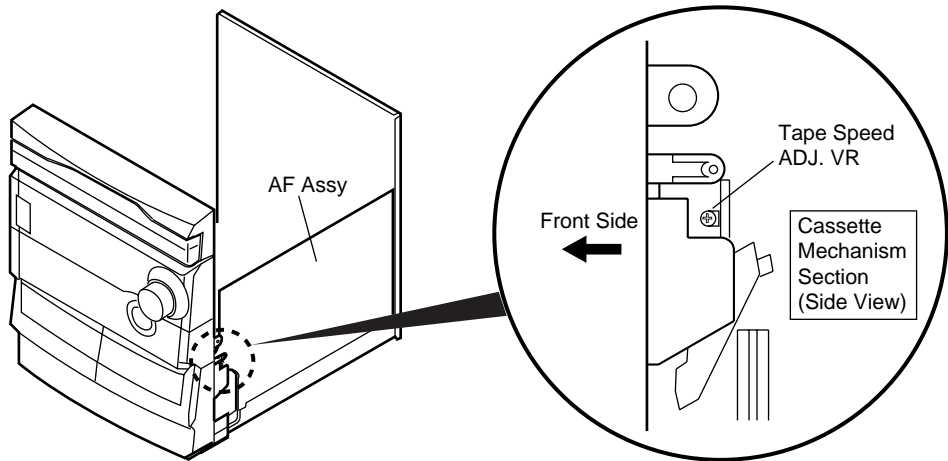
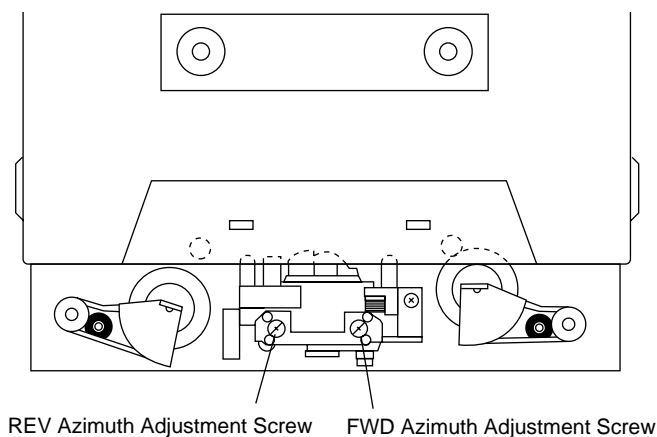
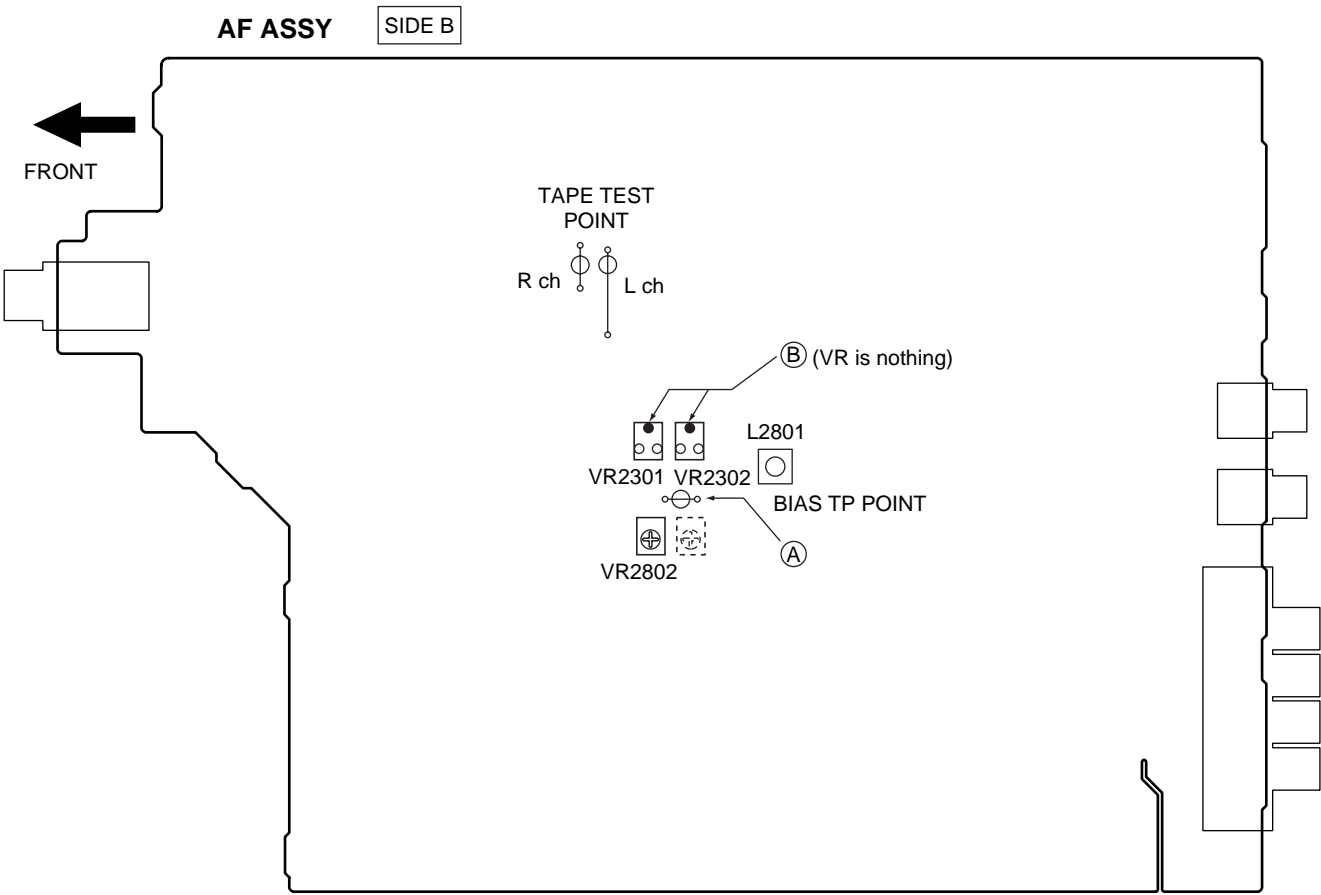

Fig.8 Tape Speed ADJ. Point
Fig.10 Head Azimuth Adjustment Screw
Fig.11 Adjustment and Measurement Points
• Adjustment points and test points are shown in Fig.8, Fig.10 and Fig.11.